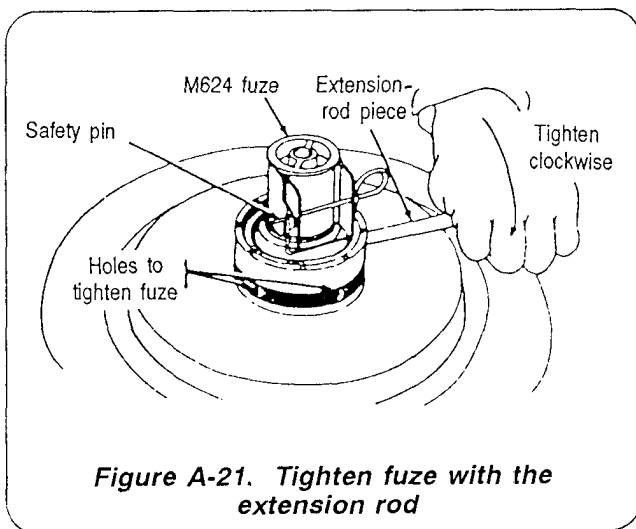

Figure A-21. Tighten fuze with the extension rod
e. Tighten the fuze by inserting one unthreaded end of the extension rod piece into a hole on the side of the fuze. Turn the fuze a quarter turn (Figure A-21).